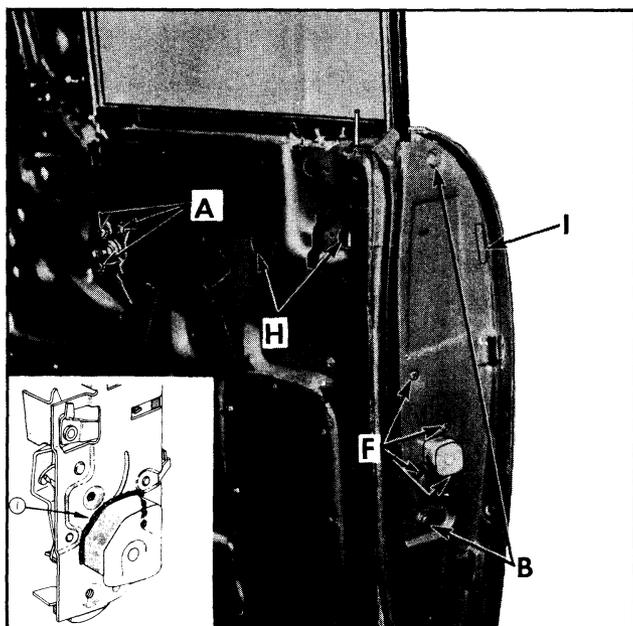
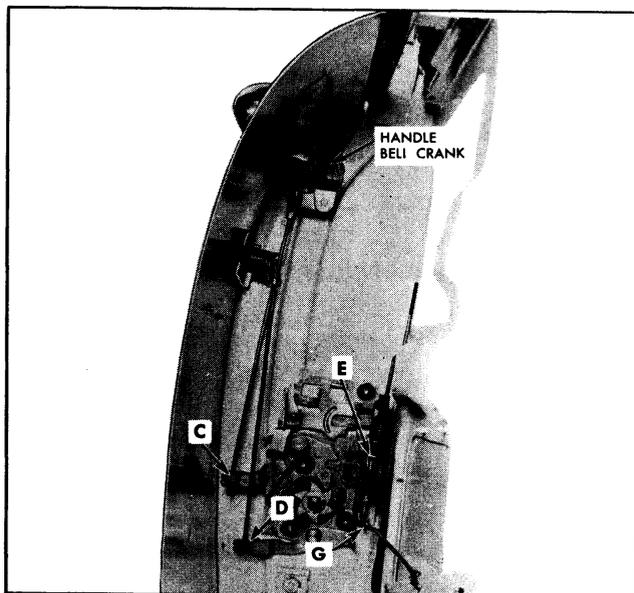

Fig. 17-7 Lock Removal (HS)
Fig. 17-8 Front Door Lock Connecting Rods
3. From outside of door pry out retaining clip "I" (Fig. 17-7) sufficiently to allow removal of lock cylinder with attached connecting rod from the door.
2. Remove door lock remote control attaching screws "A" and detach control from connecting rod. (See Fig. 17-7)
4. Through access hole, detach outside handle connecting rod adjusting nut "C" (See Fig. 17-8) and lock cylinder connecting rod at "D".
6. Remove lock attaching screws "F" from face of door lock pillar. (See Fig. 17-7) Detach remote control connecting rod from lock at "G" (See Fig. 17-8), then remove lock assembly from door.
To install, reverse above procedure. Apply a ribbon of caulking compound "1" to the lock assembly as shown in Fig. 17-7 inset. Adjust nut "C" (Fig. 17-8) so that outside door handle bell crank just contacts the handle push button shaft. Seal door inner panel as specified in DOOR INNER PANEL SEALING.